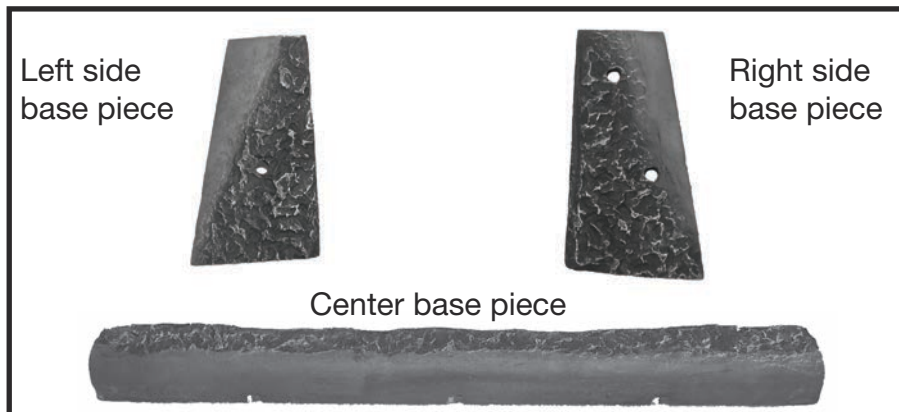
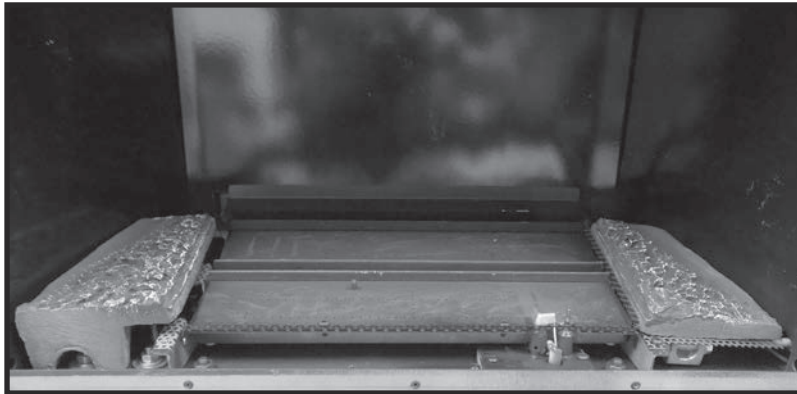
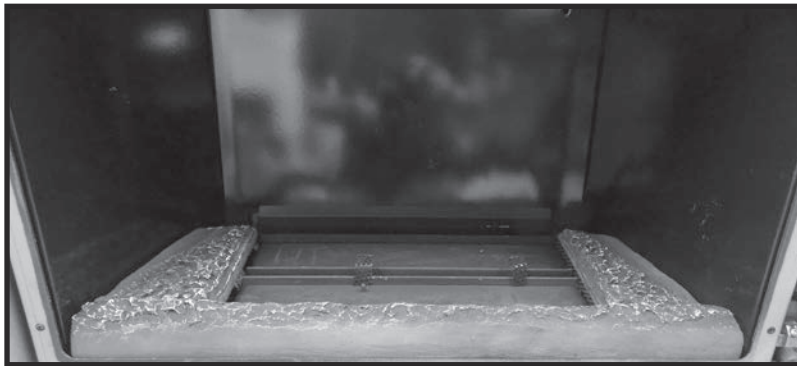

Figure 89: Log set base pieces.
Figure 90: Left and right base pieces in place.
Figure 91: Front base piece in place.
4. Position the base pieces (Figure 89) as follows: Place the left and right base pieces so that their leading edges are parallel to the leading edge of the front burner (Figure 90). Follow this by placing the center base piece so that it covers the pilot assembly. Move all 3 pieces so that the front and side pieces are touching each other (Figure 91). These pieces will form containments for the ember material.